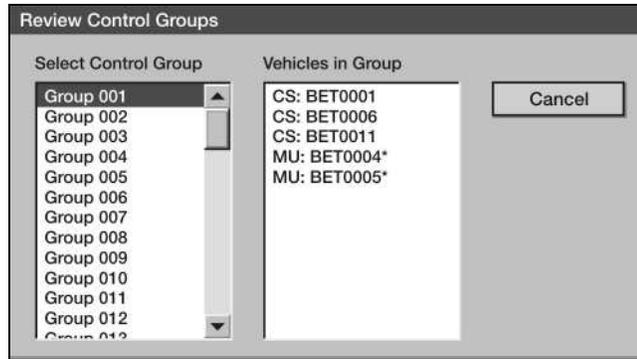

Figure 3-104. Review Control Groups
- b. The Review Control Groups window will appear. Select a group from the Select Control Group. The vehicles assigned within the selected group will be displayed in the Vehicles in Group box (see Figure 3-104).